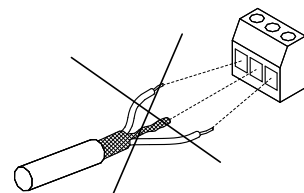

Fig. 154 Do not twist the screen ends
- Avoid terminating the screen by twisting the ends. See fig. 154. Use cable clamps or EMC screwed cable entries instead.